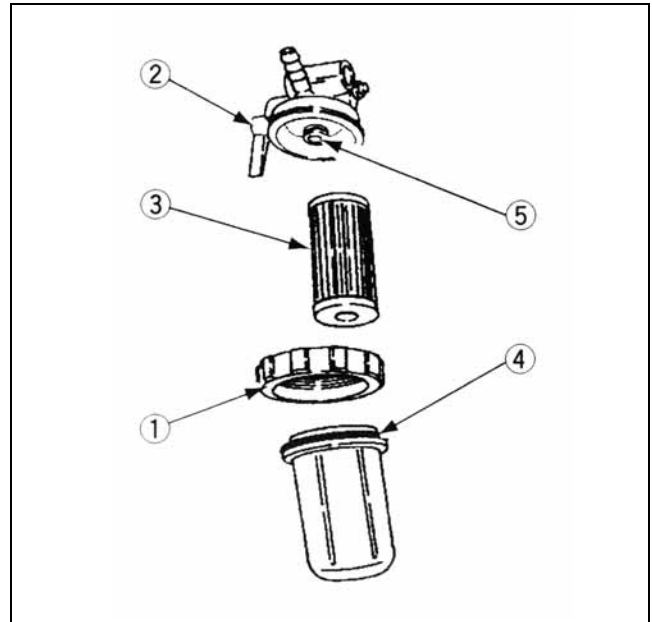

Figure 4-12
1. Make sure there is adequate fuel in the fuel tank and close the fuel shutoff valve (the handle should be pointing to the “C” position.) Remove the fuel sediment bowl. Figure 4-12
1. Close the shutoff valve (the handle should be pointing to the “C” position). Figure 4-12
2. Remove the sediment bowl by rotating the retaining nut Ref. No. 1. Figure 4-12
3. Open the fuel shutoff valve Ref. No. 2, to drain any remaining water from the tank. Figure 4-12
4. Discard the fuel element Ref. No. 3, and install a new element. Figure 4-12
5. Inspect the O rings Ref. No. 4 & 5 and replace if necessary. Figure 4-12
7. Open the fuel shutoff valve (the handle should be pointing to the “O” position), so fuel will flow to the filter. Figure 4-12